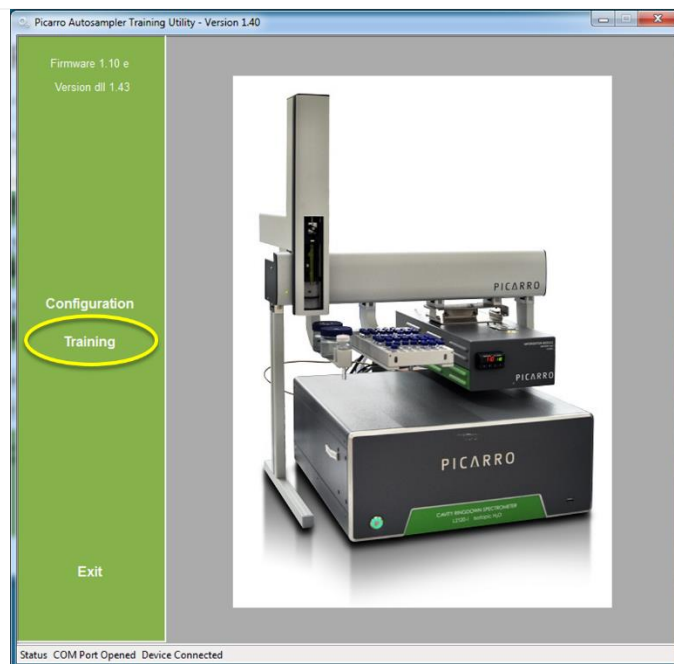

Figure 124. Select the Training Option in the same Window.
STEP 5 | Select “Training” (Figure 124).